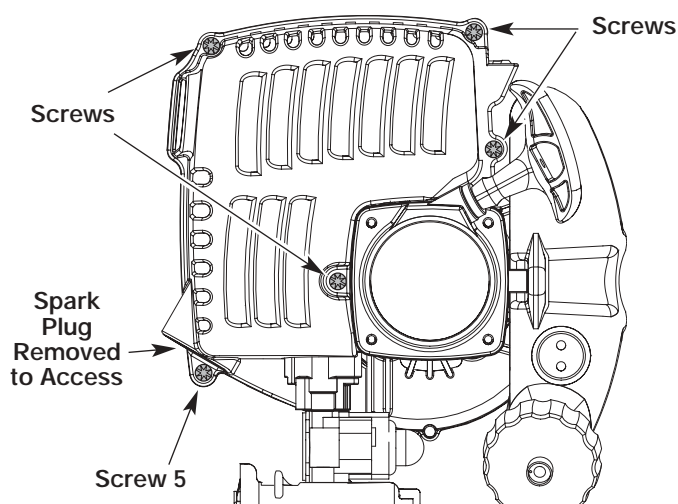

Fig. 13
2. To access the muffler and spark arrestor, you must remove the engine cover. Using a T-25 torx or flathead screwdriver, remove the five engine screws pictured in Figure 13.
**NOTE:** You will have to remove the spark plug to access one of the engine cover screws (Screw 5) (Fig. 13).